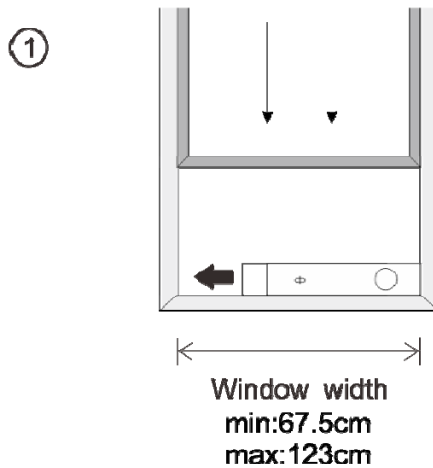
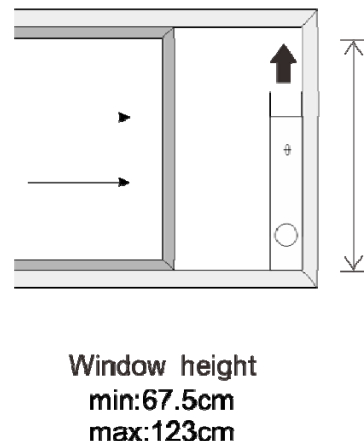

Fig.10
Fig.10a
The window kit can be installed in a vertical or horizontal position. As shown Fig.10 and Fig.10a, check the min. and max. size of the window before the installation.
1. Install the window kit on the window (Fig.10, Fig.10a);